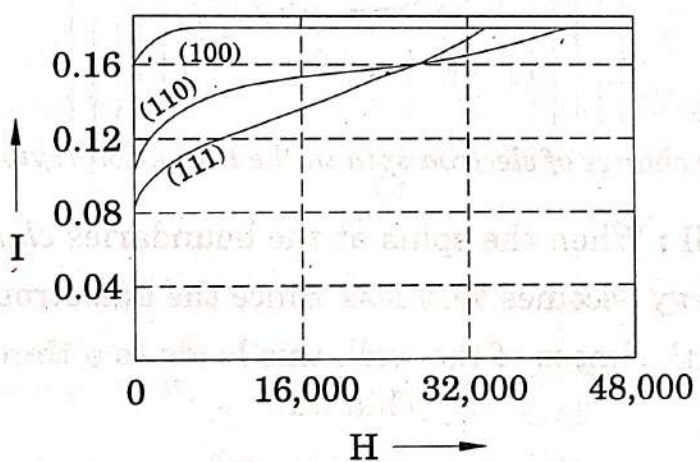

Fig. 3.15 Anisotropy energy in ferromagnetism
*Crystalline anisotropy energy* is energy of magnetization which is the function of crystal orientation. In Fig. 3.15 magnetization curves for iron with the applied field along different crystallographic directions have been drawn. For example, in BCC iron the easy direction is [100], the medium direction is [110], and the hard direction is [111]. The energy difference between hard and easy direction to magnetise the material is about  $1.4 \times 10^4 \text{ Jm}^{-3}$ . This energy is very important in determining the characteristic domain boundaries.